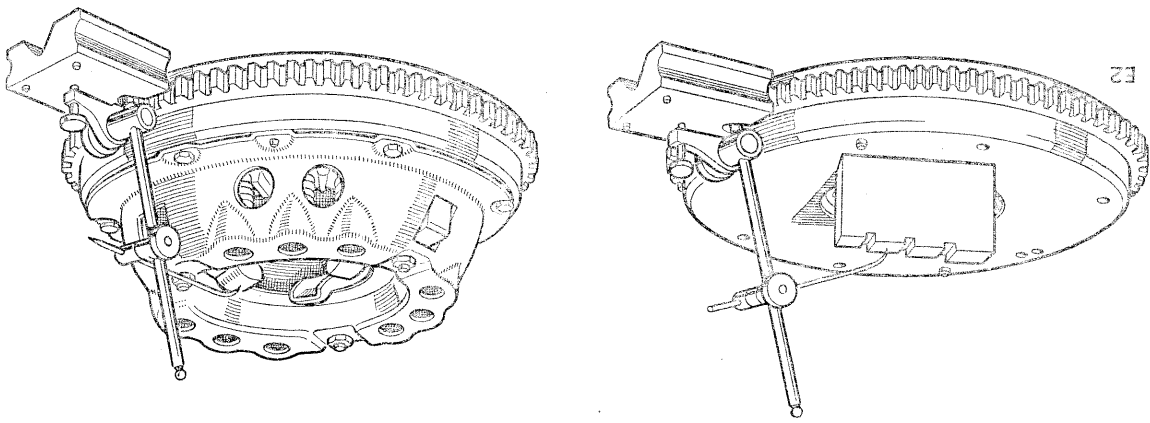

Fig. B-3—Setting the operating levers
1. The setting of the clutch release levers is checked, using $\frac{3}{8}$ in. (.95 mm) distance pieces in place of the driven plate. The levers must be adjusted to a dimension of 1.655 in. (.42 mm) from the flywheel face, with a maximum of .010 in. (.25 mm) difference in height between the three levers. (Fig. B-3).